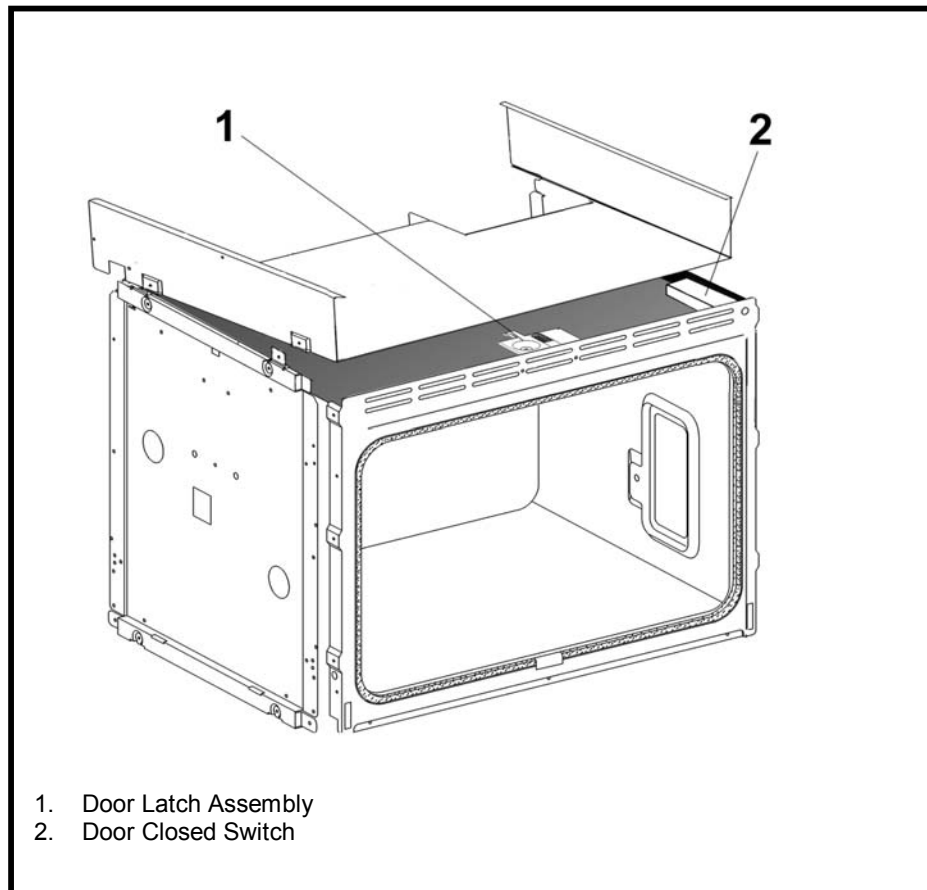

Figure 5-14: Lifting the front of the Upper Housing to access the Door Lock / Latch Assembly and Door Closed Switch
7. Slightly lift the Upper Housing near the front to access the Latch Assembly, as shown in Figure 5-14.